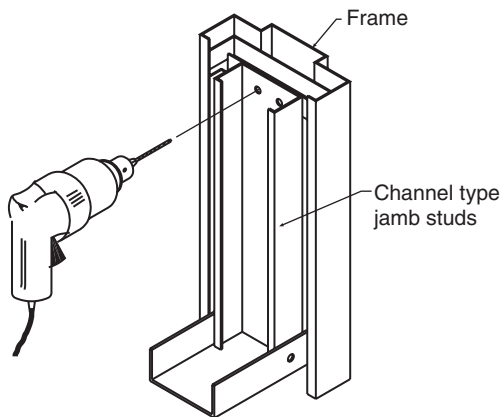

Figure 13 – Channel type steel stud
7.7.1 If using screws, drill from the back side of the stud, through both the stud and anchor, then attach with (2) screws per anchor location (see Figure 13). Screws shall be #6 x $\frac{3}{8}$ " minimum steel sheet metal or self-tapping type.